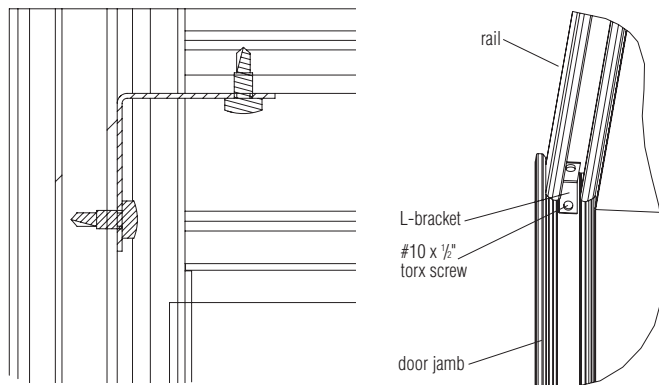

Figure 4
8. Install the sliding door L-bracket. Place the bracket over the corner formed by the door rail and door jamb. Position it so the inside of the L-shaped bracket contacts the top of the door rail and the outside of the door jamb. Secure it with two #10 x  $\frac{1}{2}$ " Torx PH (Figure 4).